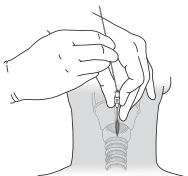

Fig. 4
5. Advance the soft, flexible end of the wire guide through the catheter or needle and into the airway several centimeters. (**Fig. 4**)